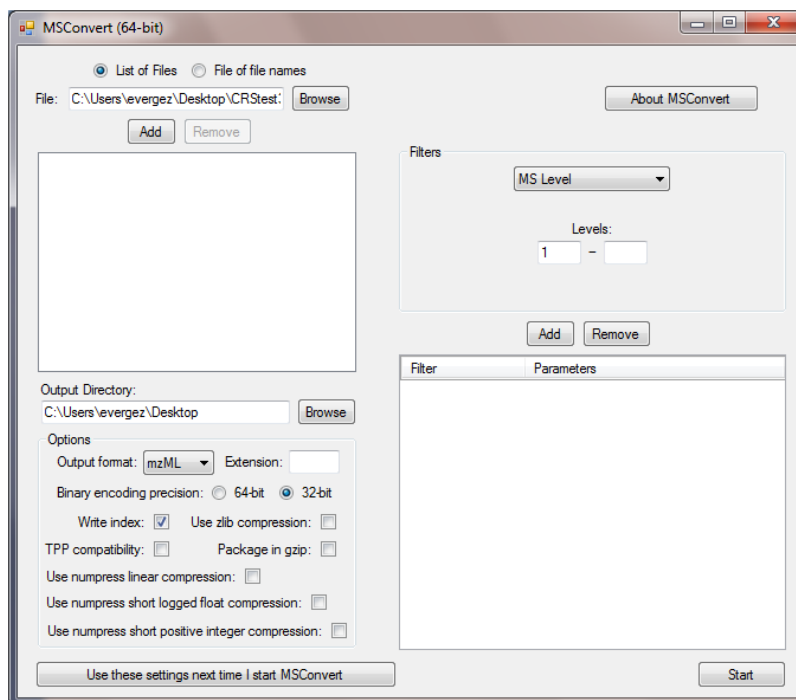

Figure 7.35. MS Convert Settings
- c. The operator should use the settings shown in Figure 7.35 to convert the data file.